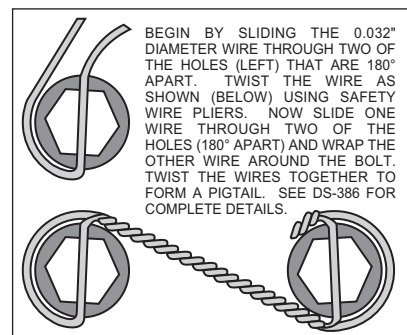

Figure 7. Safety Wire Diagram
- Align the correct hole pattern in the rotor (3) with the stud pattern on the axle flange. **NOTE:** Some OEM and after market axles come with stud sizes larger than 0.50" diameter. Verify stud size and have a qualified machine shop drill the hat section of the rotor to the correct size, if necessary. Slide the rotor (3) over the wheel studs covering the mounting bracket assembly (1) and against the axle flange face.
- NOTE:** Please reference the caution statement at the beginning of the assembly instructions. WITH THE BLEED SCREWS POINTING UP, mount the caliper (4) over the rotor (3) and onto the caliper mounting bracket (1) using lock washers (5) and mounting bolts (6). View the rotor through the top opening of the caliper. The rotor should be aligned in the center of the caliper. If not, adjust the caliper by using 0.032 inch shims (7) by placing them between the caliper mounting bracket (1) and the caliper (7). Apply red *Loctite*® 271 to the mounting bolt threads (6), torque to 30 ft-lb. Safety wire the caliper mounting bolts (6) using standard 0.032 inch diameter stainless steel safety wire as shown in Figure 7. Refer to Wilwood's data sheet DS-386 (available at www.wilwood.com/pdf/ds386.pdf) for complete safety wire installation instructions.